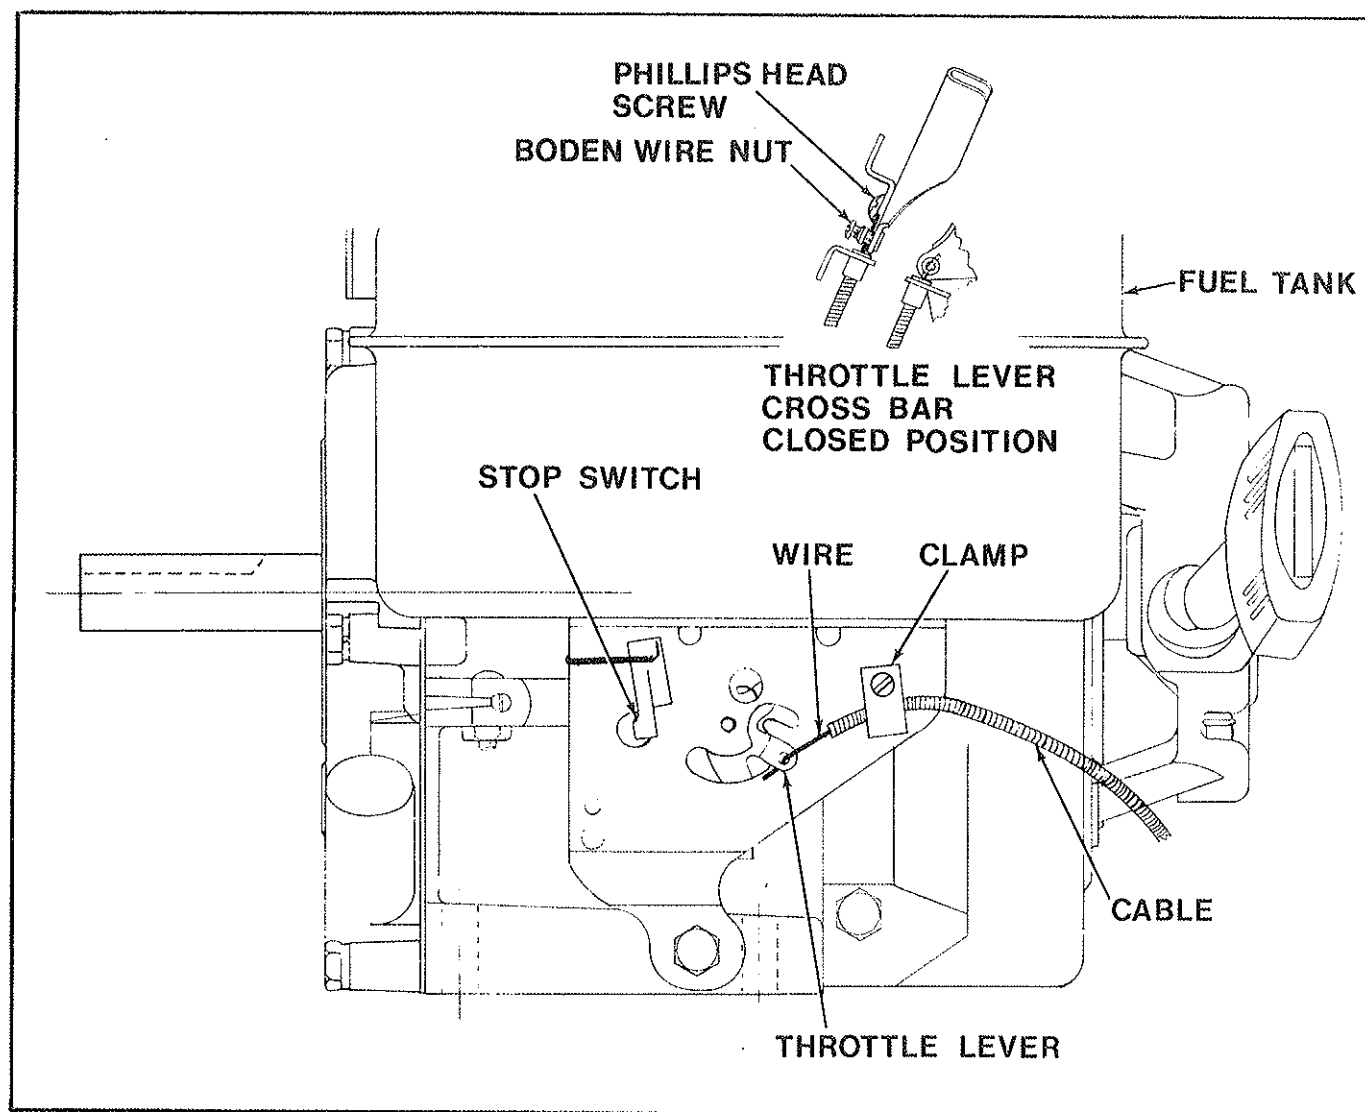

Figure 5. Briggs and Stratton Throttle Hook-up
A. Insert end of wire into small hole in throttle control lever on cross bar. The cable is attached to the throttle control lever bracket. At the lower end of throttle assembly, insert end of wire into small hole in throttle lever on engine as shown in figure 5.